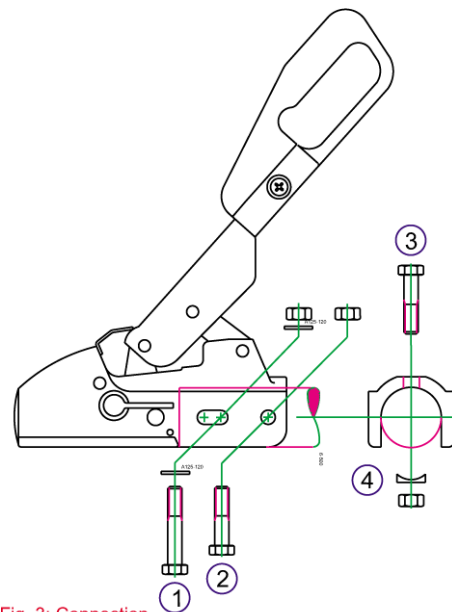

Fig. 3: Connection
2.2 The drawbar ball coupling can be mounted with a longitudinal ①+② or cross ①+③ screw connection and the hole spacings of 40/50/54 mm. The drawbar ball coupling WS 3000 H can be mounted with cross ①+③ screw connection and a hole spacing of 40 mm. The attachment material is included in the scope of delivery and is to be used as follows (Fig. 3):
2.3 If the drawbar ball coupling WS 3000 is used to replace a different coupling type, care must be taken with overrun assemblies to ensure that the shock absorber is mounted again correctly and any spacer tubes in the drawbar are installed correctly. Please use the bolts supplied with a diameter of 12x34mm or 12x49mm, depending on the diameter of the drawbar. Use the bolts to back up the fixing screw ② or ③ (Fig. 3), depending on the way in which the shock absorber is mounted, and leave the bolts in the drawbar when mounting the drawbar ball coupling in order to center the shock absorber. Remove the bolts again when pushing the fixing screw through.